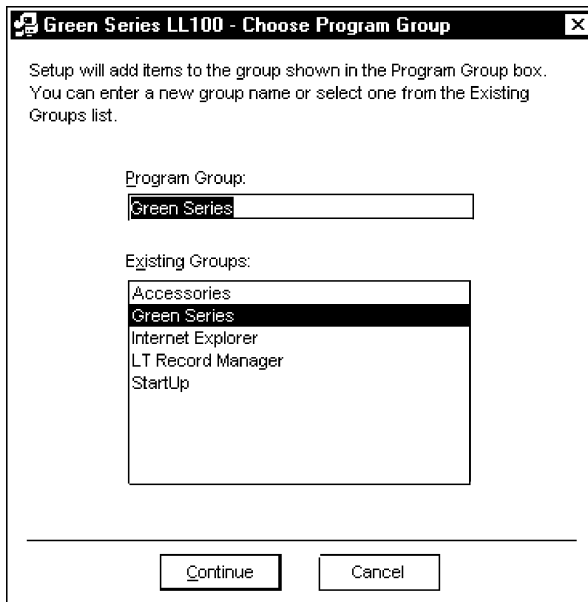

Figure 2.1.4 Green Series LL100 – Choose Program Group Dialog Box
- (7) To continue the setup, click the button with a symbol of a personal computer. The dialog box named Green Series LL100 – Choose Program Group, shown in Figure 2.1.4, appears.